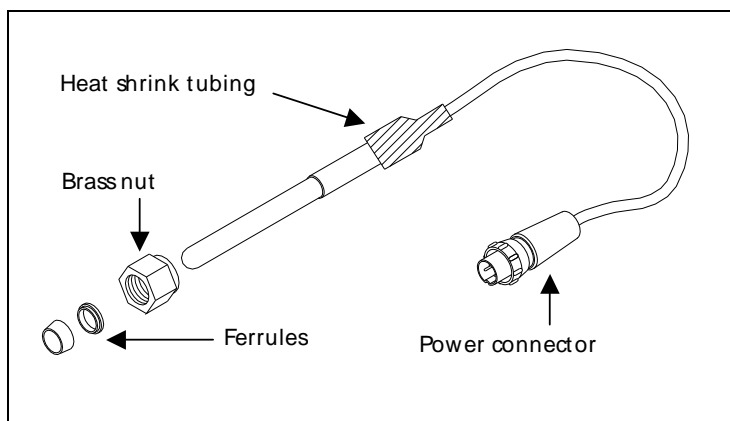
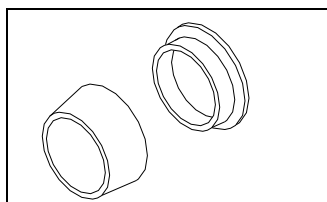

Figure 35: Relative Positioning of Components in the UV Lamp Assembly
Figure 36: UV Lamp Ferrule Orientation Detail
8. Slide the nut up the lamp housing (toward the connector cord), and then slide the ferrules up the lamp housing, until they are level with the black heat shrink tubing. Be careful when inserting the lamp into the Analyzer as the nut and ferrules may slide off. Refer to Figure 35 and Figure 36 for proper orientation of the ferrules.
10. Tighten the brass nut finger-tight. While tightening the nut, make sure it stays level with the heat shrink tubing (Figure 35). Do **not** use a wrench.